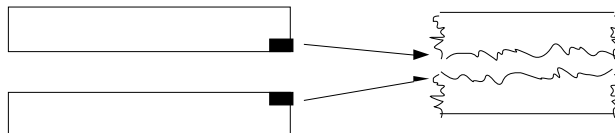

Figure 1 Macro vs Microscopic View
When we take a microscopic look at a small portion of what appears to be a smooth macroscopic surface we see a surface that looks anything but smooth. When enlarged, the portion shown in black to the left of Figure 1 will look something like the drawing on the right. Even a polished surface is riddled with peaks and valleys throughout. Because of these irregularities, the area of microscopic contact between solids is only a small percentage of its total macroscopic surface. The maximum force of friction, then, is proportional to the microscopic area of contact, but the microscopic area is also proportional to the total macroscopic area (A) and the force per unit area (F/A) acting on its surface. Since the product of these two factors ($A \cdot (F/A) = F$) is independent of the macroscopic area, we find that friction depends only on the force applied and the composition of the material itself.